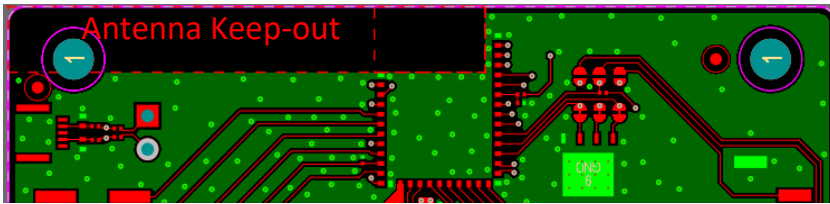

Figure 6 : PCB trace Antenna keep-out area (shown in red), corner of the BL54L15 development board for the 453-00001 module.
- The BL54L15 development board (453-00001-K1) has the 453-00001 module on the edge of the board (not in the corner). The antenna keep-out area is defined by the BL54L15 development board which was used for module development and antenna performance evaluation is shown in Figure 6, where the antenna keep-out area is ~5mm wide, ~28.6mm long; with PCB dielectric (no copper) height ~1.57mm sitting under the 453-00001 PCB trace antenna module. BL54L10 module (453-00225) please follow the same design of BL54L15.